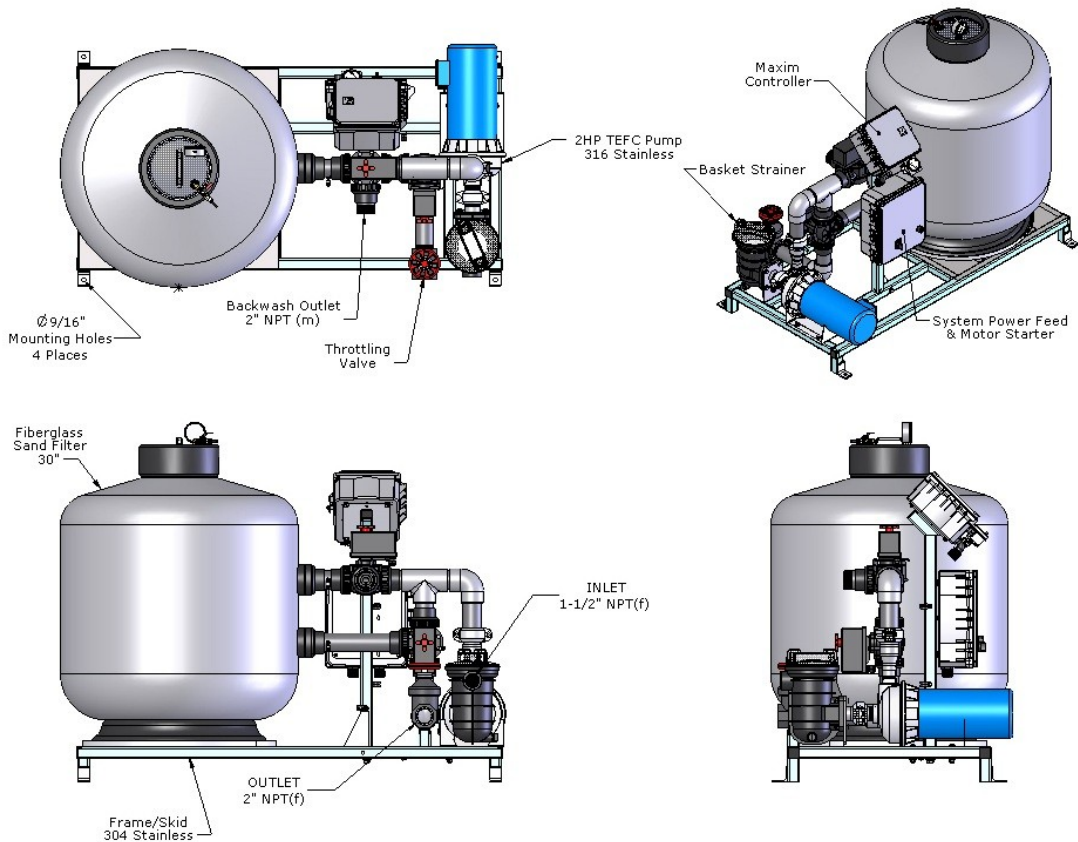

Figure 1. TowerGuard System Layout using the Tower Water backflush hookup.
3. The filter will require a sand media bed depth, which shall extend to an approximate level below the top of the hydraulic distribution lenses. See Figure 1